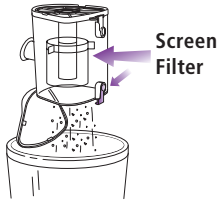

Fig. 20
- If needed, turn the dust cup upside down over the trash receptacle and press the top door release button. **(Fig. 20)** Tap gently to remove contents. Use a dry cloth or paper towel to remove debris stuck to the screen filter inside the dust cup. Press the door shut again until it clicks.